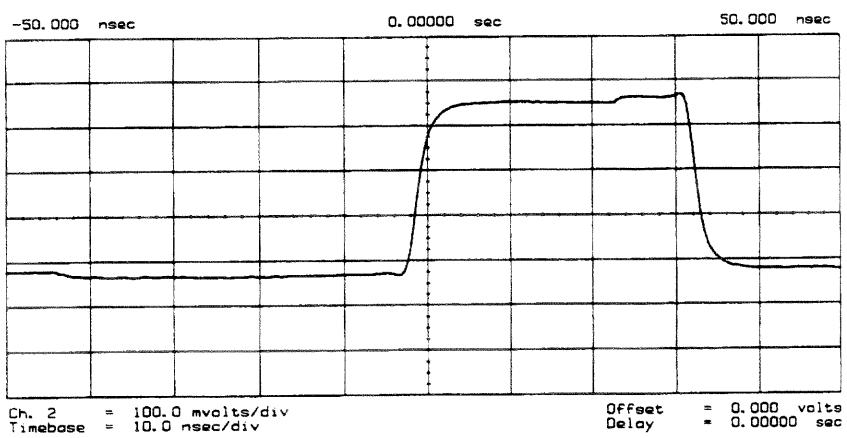
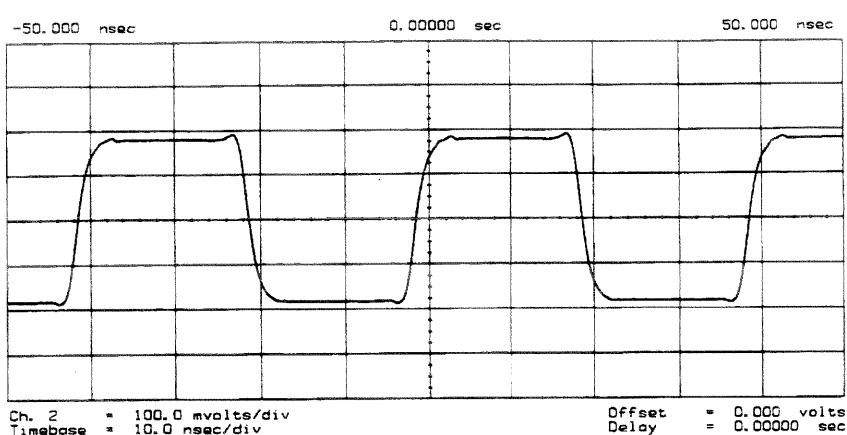

Figure 7-17. 10 MHz HI OUT Waveform from A14J1
Figure 7-18. 25 MHz HI OUT Waveform from A14J1
3. Vary the fractional-N VCO frequency with the front panel knob and check the signal with the oscilloscope. The waveform should resemble Figure 7-17, Figure 7-18, and Figure 7-19.